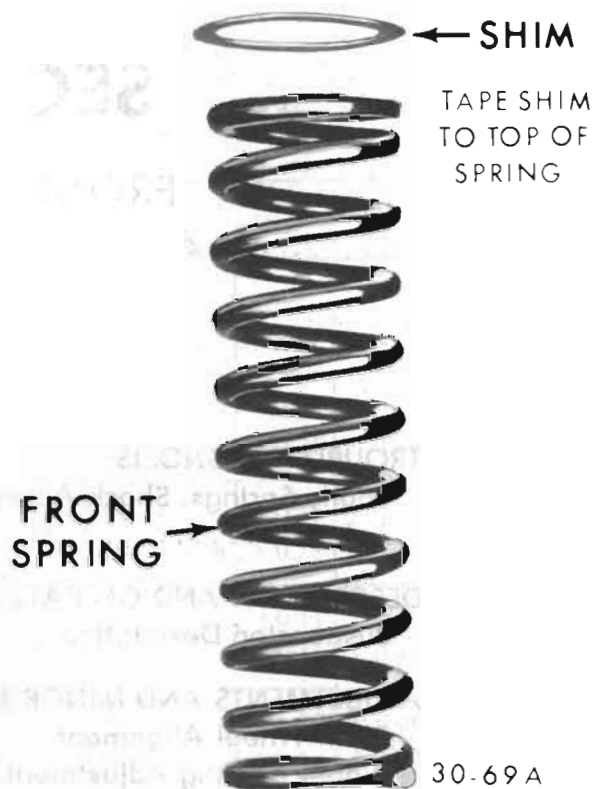

Figure 30-26 - Installing Shim on Spring
2. Place shim at top of spring as shown in Figure 30-26. Taping shim to spring will aid installation.